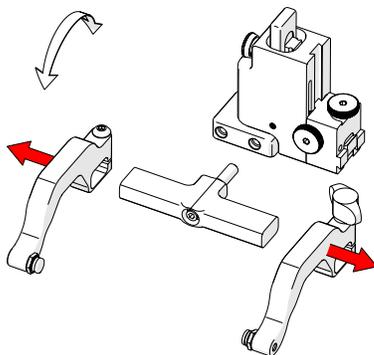

Fig. 116 - Remove probe holder arms
3. Loosen the arm clamp screw and the probe holder arm adjustment knob allowing removal of the probe holder arms (Fig. 116).